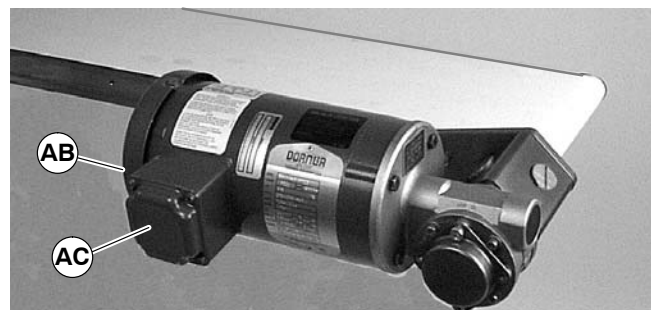

Figure 22
- a. Loosen terminal box screws (AB of Figure 22) and remove cover (AC).